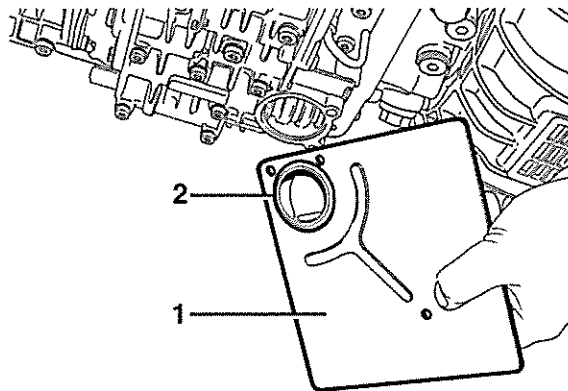

Fig 4 Oil screen
- 11.9 Remove oil screen with O-ring (see Fig 4).
- 12.10 Fit new O-ring to suction collar of oil screen and tighten screen to correct torque (see Table 2, Ser 9) (see Fig 4).